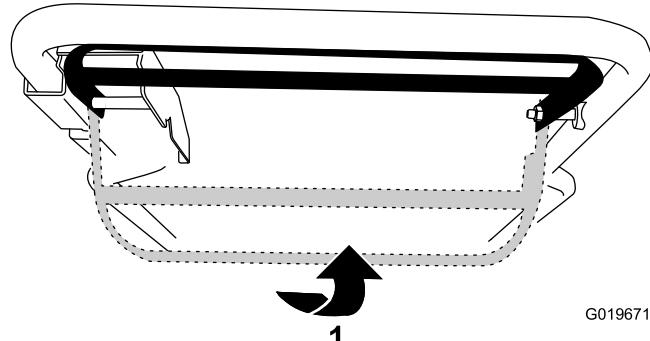

Figure 15
- **To operate the self-propel drive without engaging the blade:** Raise the blade-control bar to the handle (Figure 15).